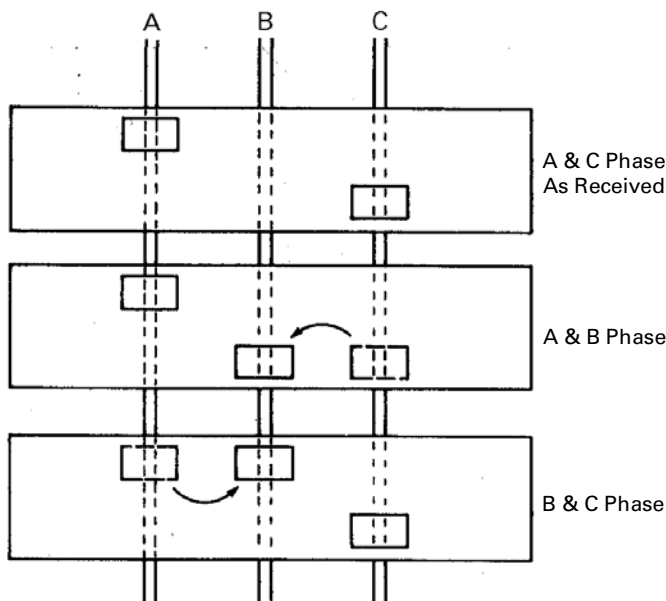

Figure 1. Repositioning the bus clip to balance the load.
- 1. Phase balancing for two-pole devices on three-phase systems.** To balance the panelboard load, remove the screws on the appropriate bus clip, reposition the bus clip as shown in Figure 1, then install and tighten the screws to 27–32 in-lb.